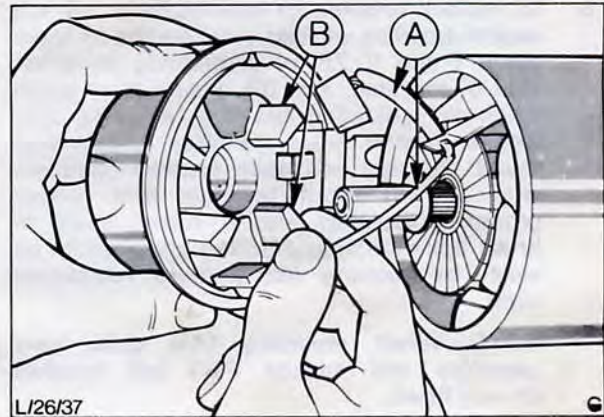

Fig. 80. Unhook solenoid from actuating arm
2. Remove solenoid nuts and washers securing body to drive end cover. The solenoid body can then be removed leaving plunger hooked to actuating lever. Unhook plunger by pushing in and lifting front upwards, Fig. 80.